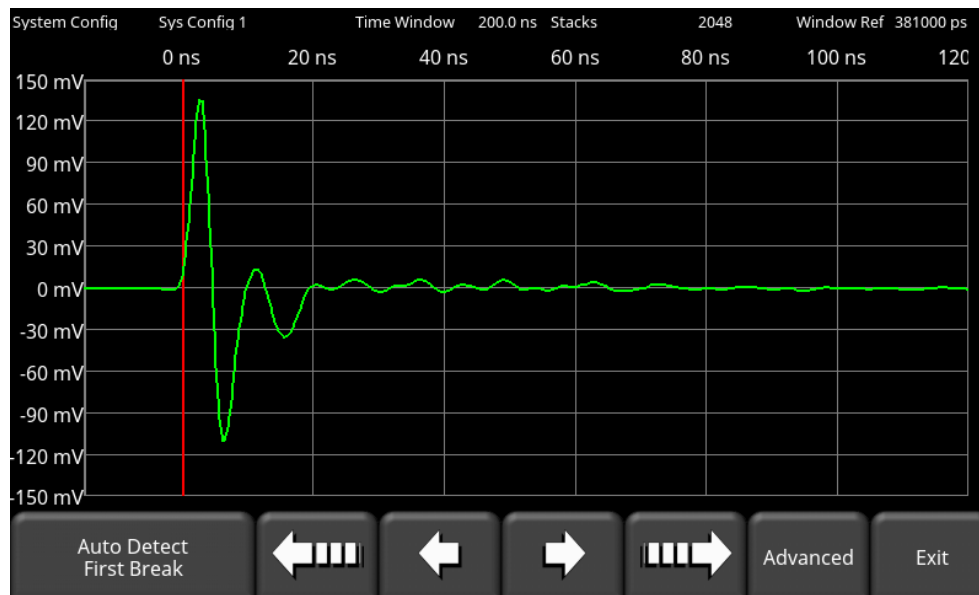

Figure 5-36: First Break at the correct position
- Press **Auto Detect First Break** for the system to initiate an automatic search to place the First Break at the correct position (Figure 5-36). Auto is generally the preferred method of setting the First Break, however if you are using high frequency transducers, the antenna separation is large, or there is a large amount of external noise then this automatic adjustment may fail. In this case, try raising the antennas or transducers